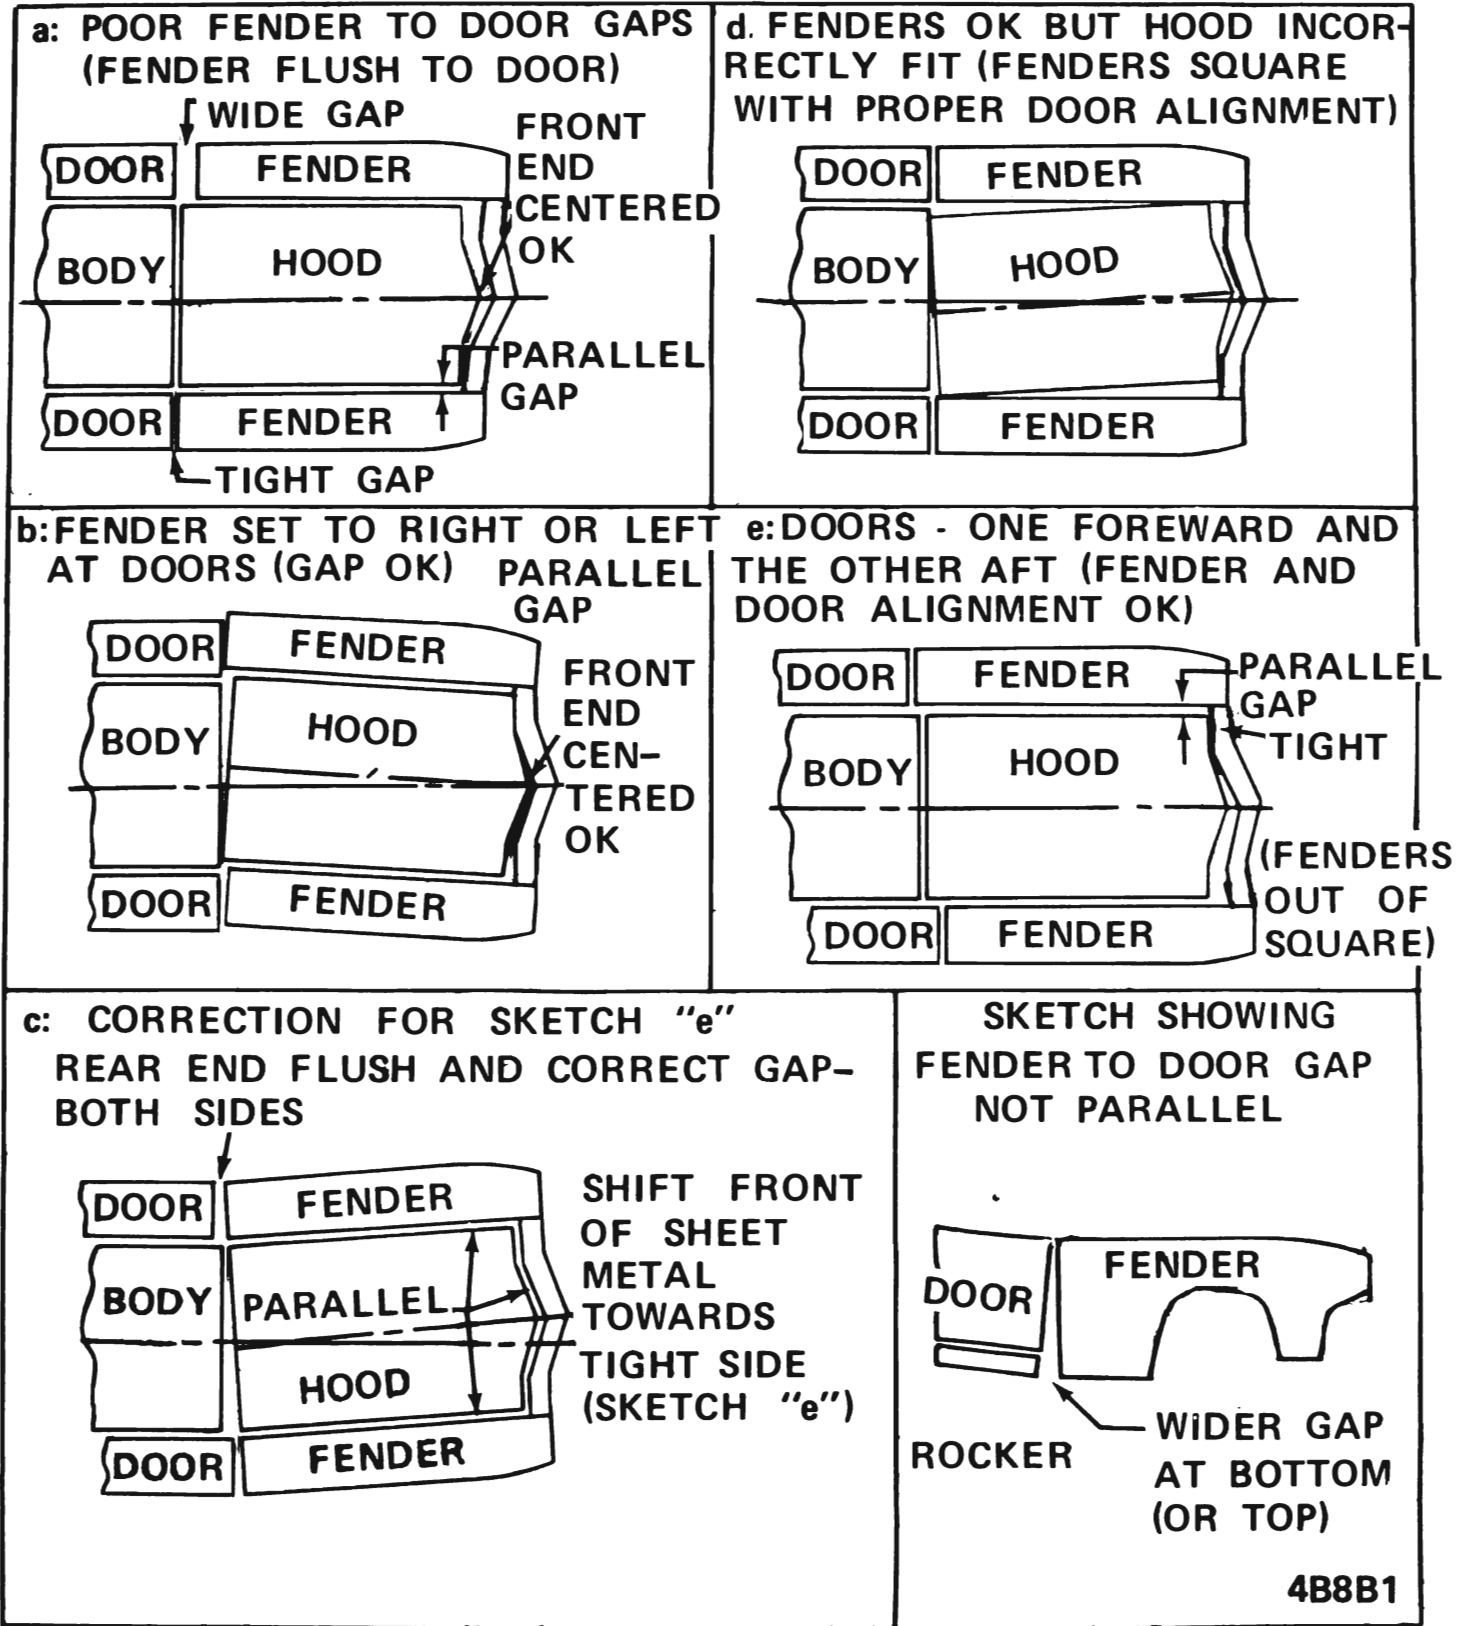

Figure 8B-1 Sheet Metal Alignment
After all parts are properly tightened, inspect fender and hood alignment. Make all inspections before performing any adjustments. An adjustment at one point will usually alter alignment at other points. The preliminary inspection should determine the adjustments that will produce the best overall alignment of hood and fenders at all points. Figure 8B-1.
Before making any adjustment of sheet metal to provide necessary clearance, first make sure that front doors are properly aligned in the body openings. If fenders and door panel surfaces are not reasonably flush, realign them. Refer to Figures 8B-2, 8B-3, 8B-4 and 8B-5 for sheet metal aligning tolerances.
6. Remove bolts securing the front of the fender to the radiator support and front end panel. (Figures 8B-6 and 8B-8)
8. Remove screws retaining fender and wheelhouse assembly to cowl, radiator support, rocker panel. Note number and location of shims. (Figures 8B-2 and 8B-9)
9. Remove final screws attaching wheelhouse to fender and separate. (Figure 8B-10).
3. Install screws at rocker panel and cowl and adjust fender before tightening other screws. Always start adjustment with original amount of shims. (Figure 8B-2).
2. Remove the 4 fender to radiator support bolts. See Figure 8B-11.
3. Remove the bolt attaching the fender brace rod to front lower edge of fender. See Figure 8B-12.
5. Remove the 5 fender to body bolts. See Figure 8B-13. Note number and size of shims for reinstallation.
6. Remove the side marker lamp socket by removing the spring clip retaining the lense. See Figure 8B-14.
7. Remove the fender to wheelhouse panel bolts. See Figure 8B-11. (Place protective cloth between fender and bumper.)
2. Reinstall fender to wheelhouse bolts. See Figure 8B-11.